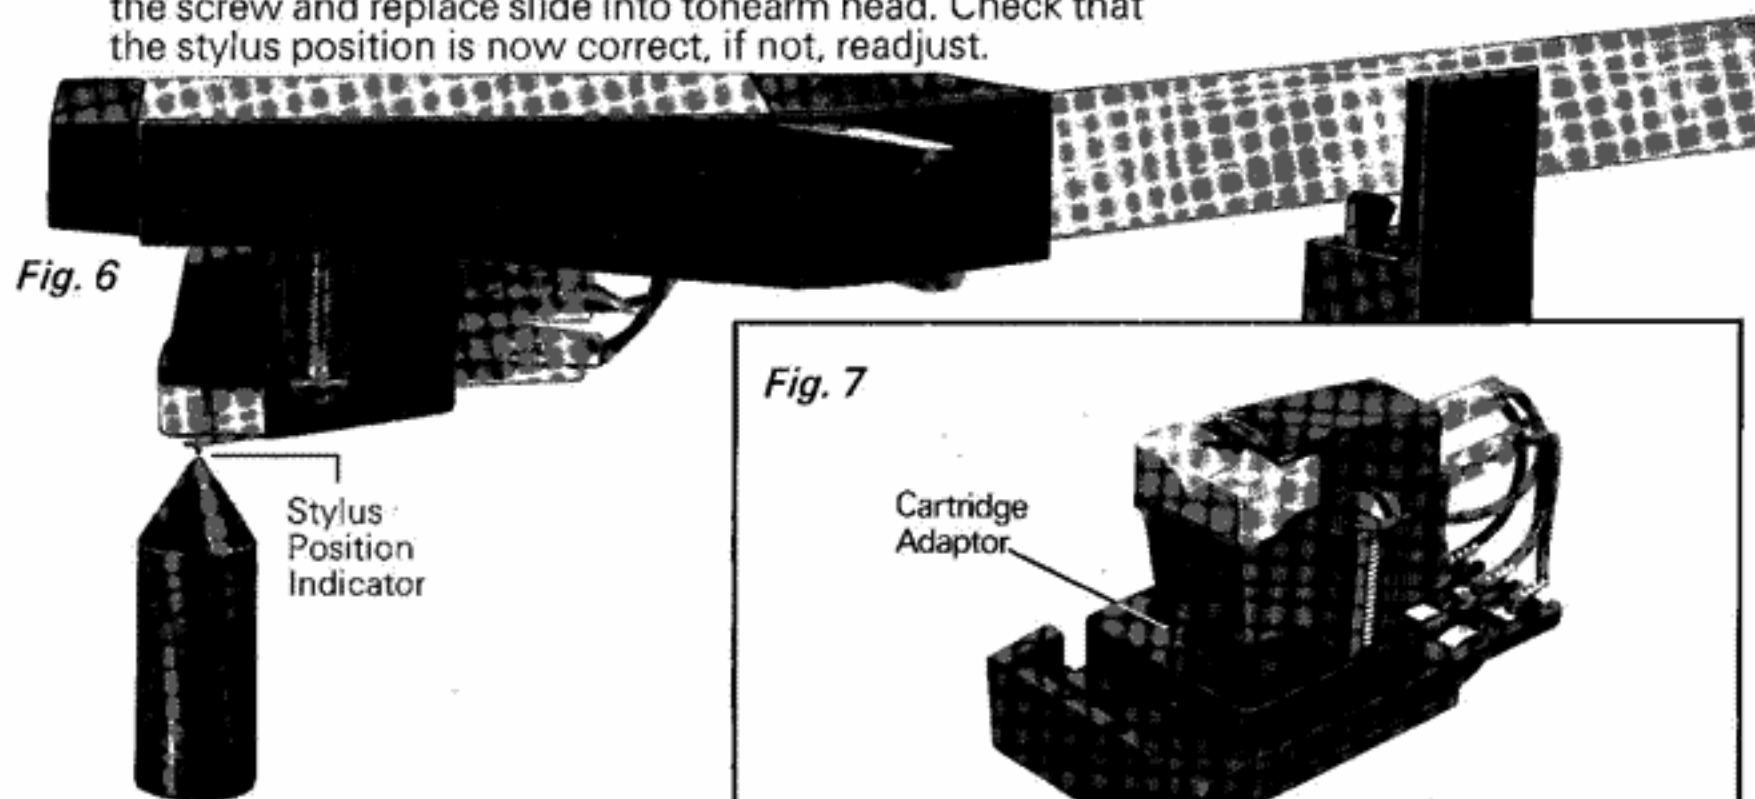

Fig. 6
- Check that the stylus point is within $\frac{1}{32}$ of an inch of the top of the stylus position indicator by carefully moving the tonearm to that position (Fig. 6).